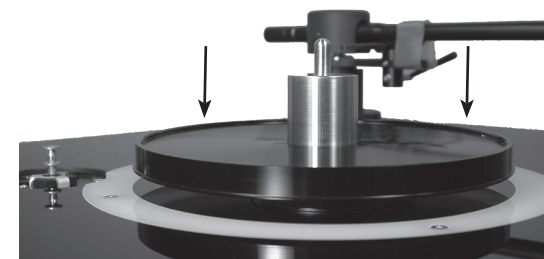

Figure 7
6. Very carefully lower the assembled spindle/inner platter onto the Ceramic Vertical Bearing Shaft, keeping the platter parallel with the top surface of the Turntable. Refer to figure 7.